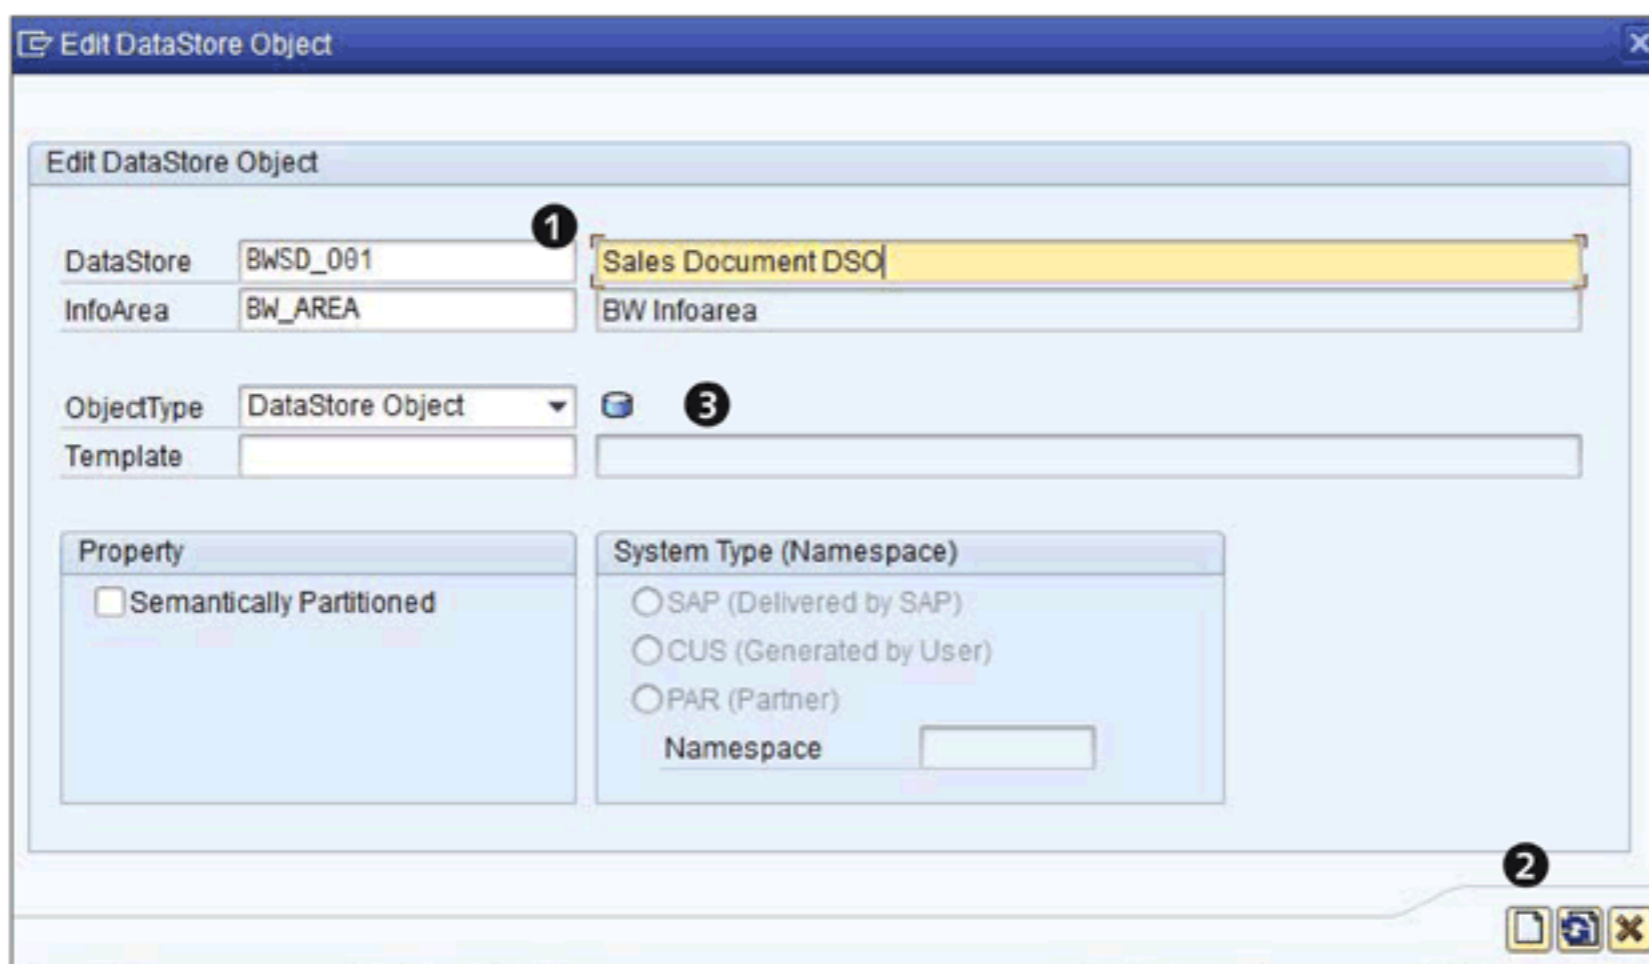

Figure 4.9 Edit DSO: Entering Name and Description
Using the context menu of InfoArea BW_AREA, select the CREATE DATASTORE OBJECT option (❸). A pop-up box titled EDIT DATASTORE OBJECT appears (Figure 4.9).
DSOs require a unique technical name and description. In this example, we use the technical name BWSD_001 and the description SALES DOCUMENT DSO, as shown in ❶ of Figure 4.9. If you're creating a DSO that is similar to another DSO in the SAP NetWeaver BW system, you can copy the structure of that DSO by entering its name in the COPY FROM field (❸).